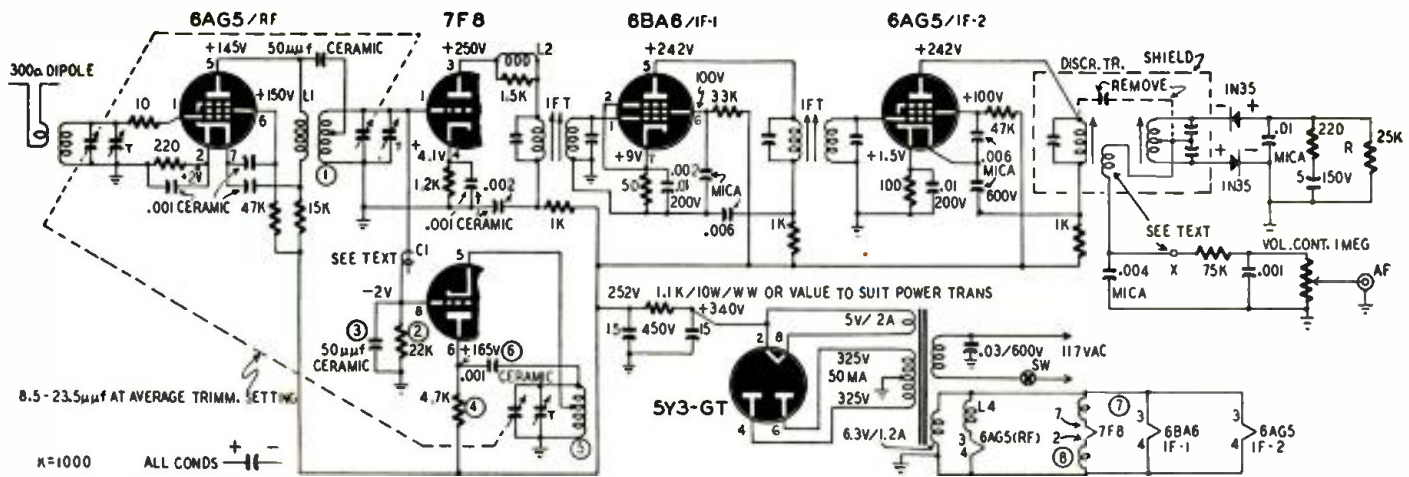

Fig. 1—The schematic. The IN35 crystal is actually two IN34's, carefully matched for equal output. Circled numbers refer to Fig. 2.
The complete circuit is shown in Fig. 1. The r.f. section is tuned by a three-gang variable capacitor. Each section has its individual trimmer. These are set initially at one turn from maximum-capacitance positions.
d.c. voltages should agree with those indicated in Fig. 1. Measure the oscillator grid voltage with a vacuum-tube voltmeter. Lack of oscillator grid voltage means an inoperative oscillator. This might be due to a bad tube, parts or wiring.